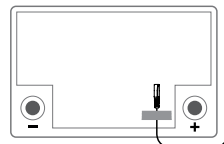

Figure 4
The external temperature sensor will adjust the charge voltage according to actual temperature of the service battery. The charge voltage is reduced at higher temperatures and is increased at lower temperatures. The temperature sensor should if possible be attached to the Service Battery, or as close to it as possible. (see figure 4)
5. Use tape (see Figure 4) to secure the temperature sensor to a clean flat surface above the service battery. Position the sensor as close to the positive terminal post as possible.